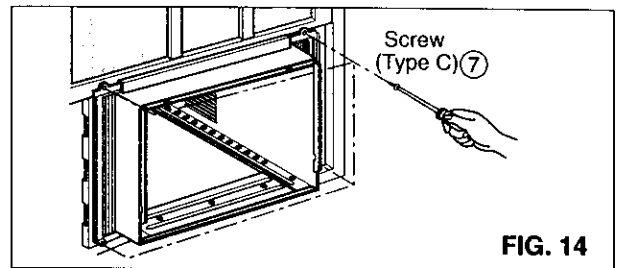

FIG. 14
- 14** Attach each side curtain to the window sash using TYPE C screws (7). (FIG. 14)